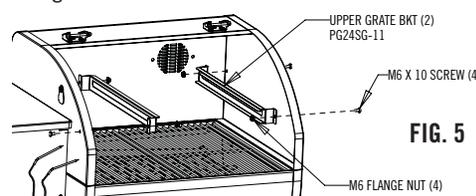

FIG. 5
1. Install the bracket as shown in Fig 5.